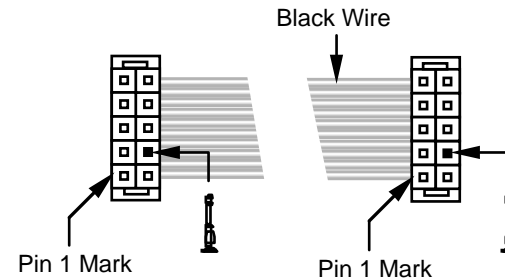

Figure 13
- Locate the pre-assembled ribbon cable. Lay the cable flat as shown in Figure 13, **with the black wire at the top and the connector holes facing up.**